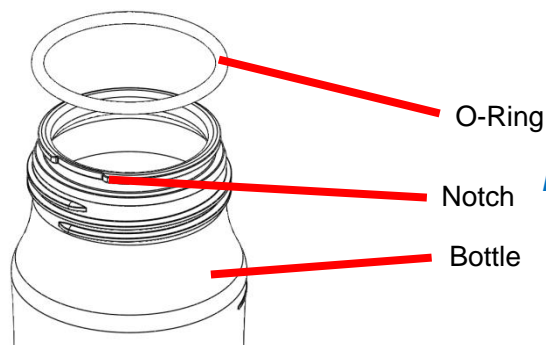

Figure 6.
- Prior to cleaning, high-level disinfection and sterilization, disassemble the Water Bottle as shown in Figure 6, below. Do not disassemble the components further. A damaged Water Bottle may prevent air and/or water feeding.